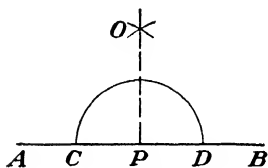

Fig. 121.
a. With  $P$  as center, using any convenient radius, draw an arc cutting  $AB$  at  $C$  and  $D$  (see Fig. 121).